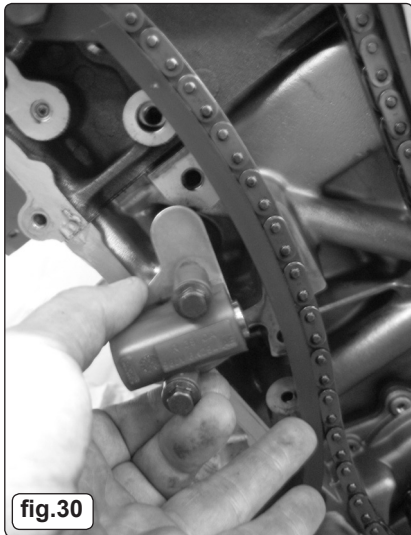

fig.30
- 4.7.6 Remove the primary chain tensioner unit and back plate (fig.30).